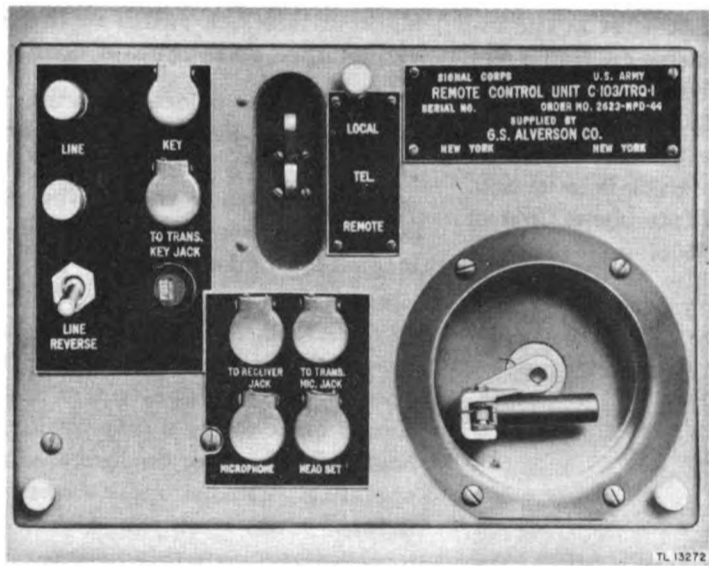

Figure 8. Remote Control Unit C-103/TRQ-1, front view.
e. **Remote Control Unit C-103/TRQ-1.** This unit permits the following operations from Control Central AN/TRQ 1 at all four positions, using telephone Wire W-110 to transmitter truck (figs. 8, 9, and 10).
- (1) Keying of the remote transmitter in continuous-wave (c-w) position.
- (2) Transmission of radio receiver outputs to the remote transmitter operators.
- (3) Turning the remote transmitter high-voltage supply on or off in phone operation, thus controlling the periods of operation.
- (4) Voice modulation of the remote transmitter from control central.
(5) Monitoring of the transmitted signal. Remote Control Unit C-103/TRQ-1 is described in paragraphs 22 and 35. Cord CD-268 connects the receiver to the remote control unit; Cord CX-269/U connects the unit to the d-c junction box.